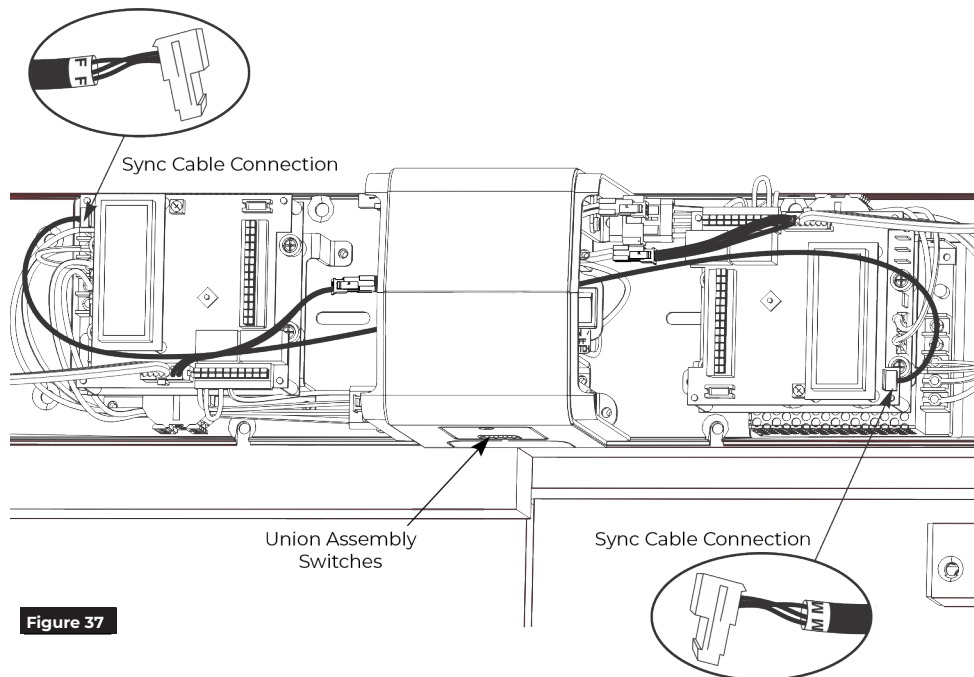

Figure 37
2. Run Sync Cable between operators. (Figure 37)
5. Place both selector mode switches of union assembly in 'ON' position for activation by push plate, RF button, or other activation devices. Place switches in 'H/O' for continuous hold open. (Figure 37)